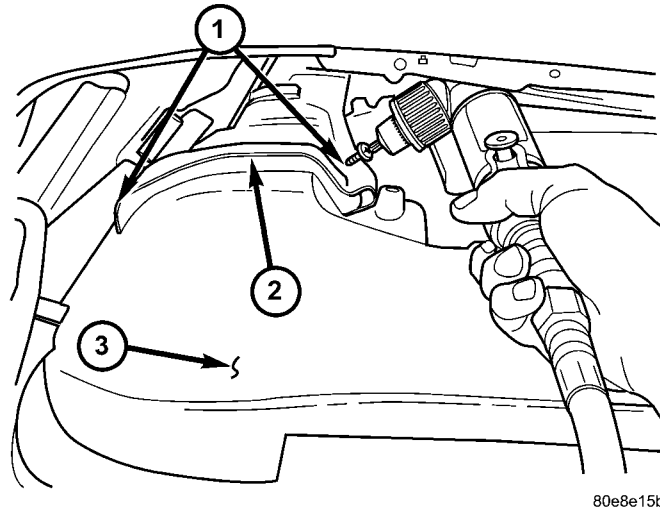

Fig. 2 DUCT SCREW LOCATIONS - LEFT SIDE SHOWN
18. Press down on the rear left side of the headliner to access the crossover duct and headliner duct. Pressing the crossover tube and headliner duct together, use a right angle drill to install the two self tapping screws as shown in (Fig. 2).